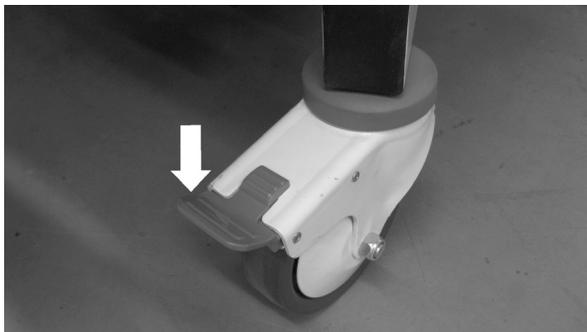
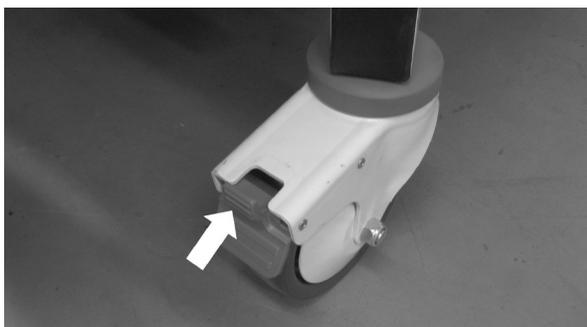

Figure 9
Figure 10
1. All (4) casters securely lock bed in place.
3. Simply push Caster Lock lever (Figure 9) **down** to lock and **up** to unlock (Figure 10).